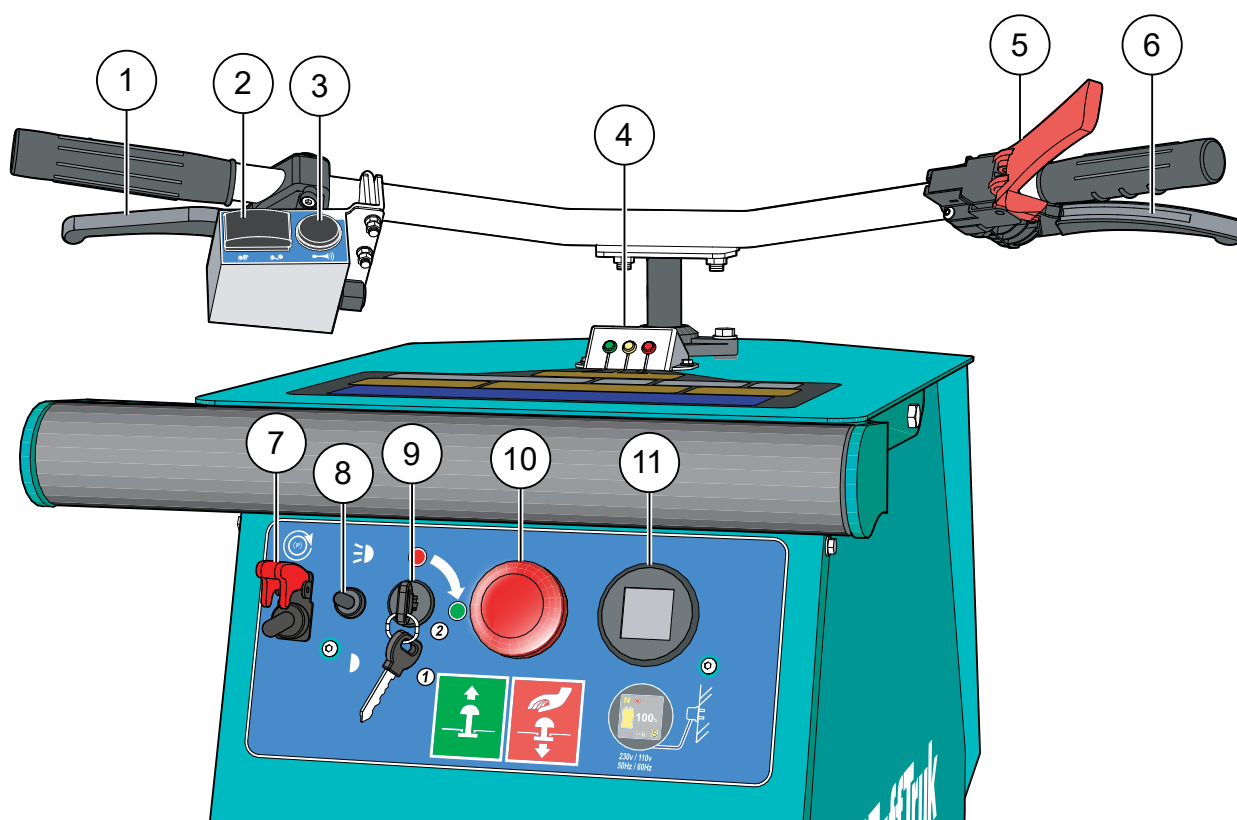

Figure 3. Control and Handle Components
The TB800BAT uses the Curtis Model 3150R Diagnostic Gauge (Figure 3, item 11). It displays the following: